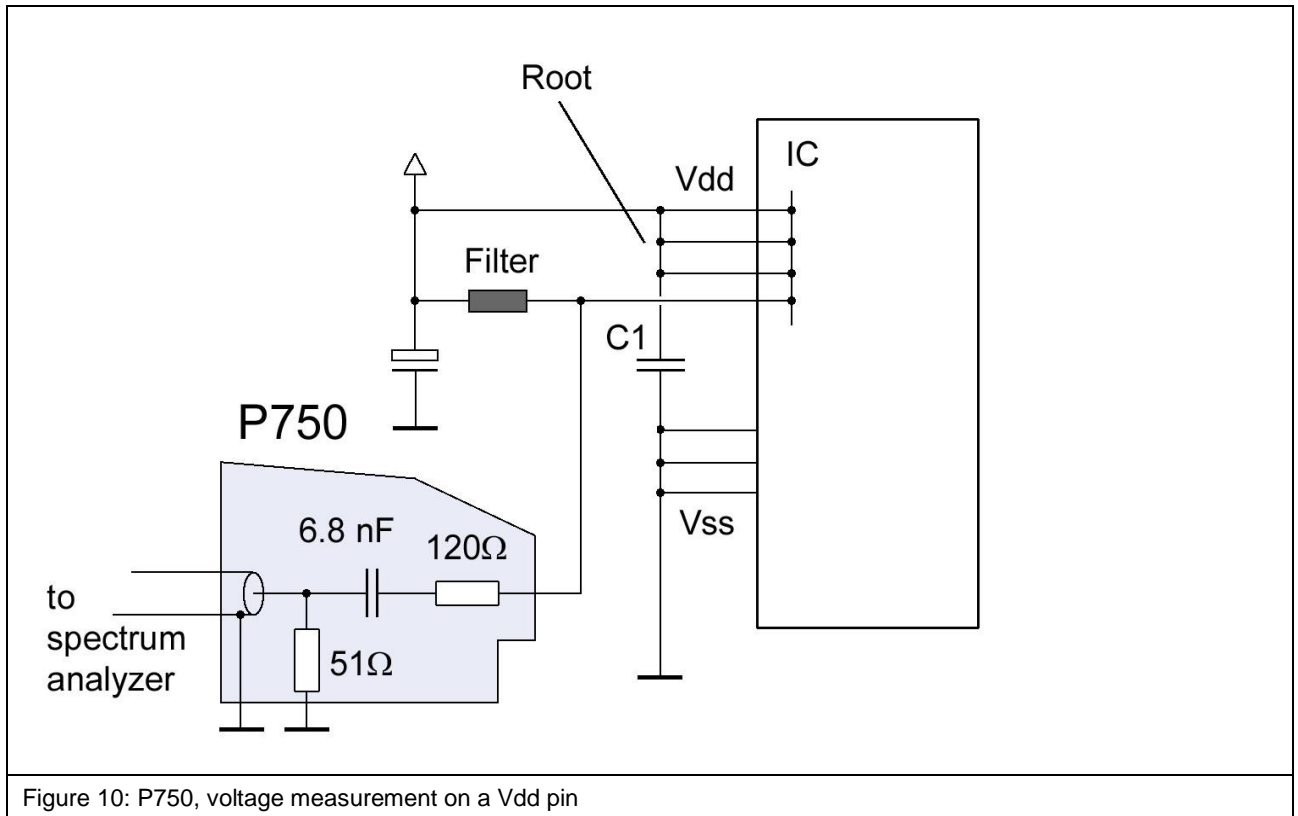

Figure 10: P750, voltage measurement on a Vdd pin
6. Voltage measurement (P750) on a Vdd or Vss pin, **Figure 10**